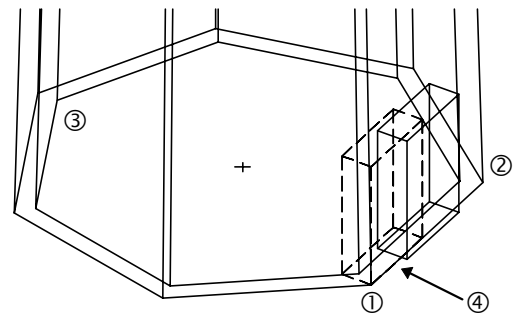

Figure 2 Constructing the Door Opening at the base of the Tower
The next step is to punch a doorway through the base of the tower. *Begin by zooming in to the base of the tower with a view similar to that shown in Figure 2, over the page (Hint: use the new real-time pan and zoom tools in the standard toolbar).* To make this process simpler, we will position the UCS (see explanation at left) as illustrated (Figure 2), with the origin at the outside corner of the tower and the X-axis in line with its base. To do that, follow these steps:
NOTE: if the UCS icon has been placed at the origin (point ① in Figure 2), then type the command **ucsicon ↵** and then type **n ↵** for “No Origin” .. that will force the icon back to the lower left corner of the screen
ENDpoint	Use the object snap mode to place the corner of the box at ① in Figure 2.